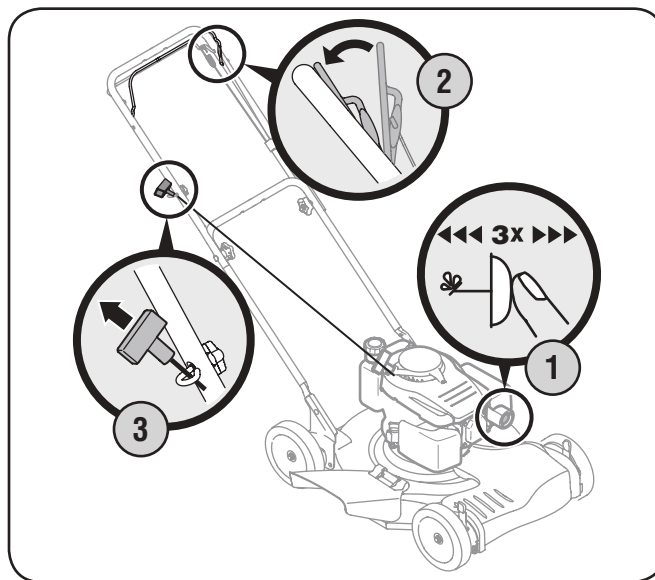

Figure 9-3
1. Push primer 3 times. Wait about two seconds between each push. See Fig. 9-3. In temperature below 50°F, prime 5 times. After the engine is warmed up, one prime may be needed for all temperatures.
3. Pull the recoil starter lightly until resistance is felt, then pull rapidly to overcome compression, prevent kickback, and start the engine. Repeat if necessary. See Fig. 9-3.